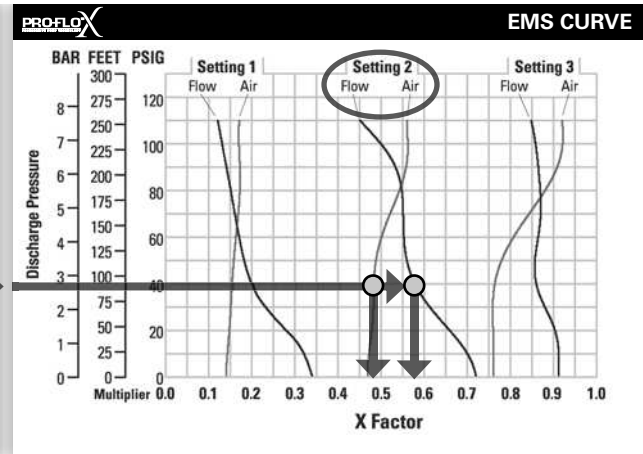

Figure 2
**Step 2: Determining flow and air X Factors.** Locate your discharge pressure (40 psig) on the vertical axis of the EMS curve (Figure 2). Follow along the 2.8 bar (40 psig) horizontal line until intersecting both flow and air curves for your desired EMS setting (in this case, setting 2). Mark the points where the EMS curves intersect the horizontal discharge pressure line. After locating your EMS points on the EMS